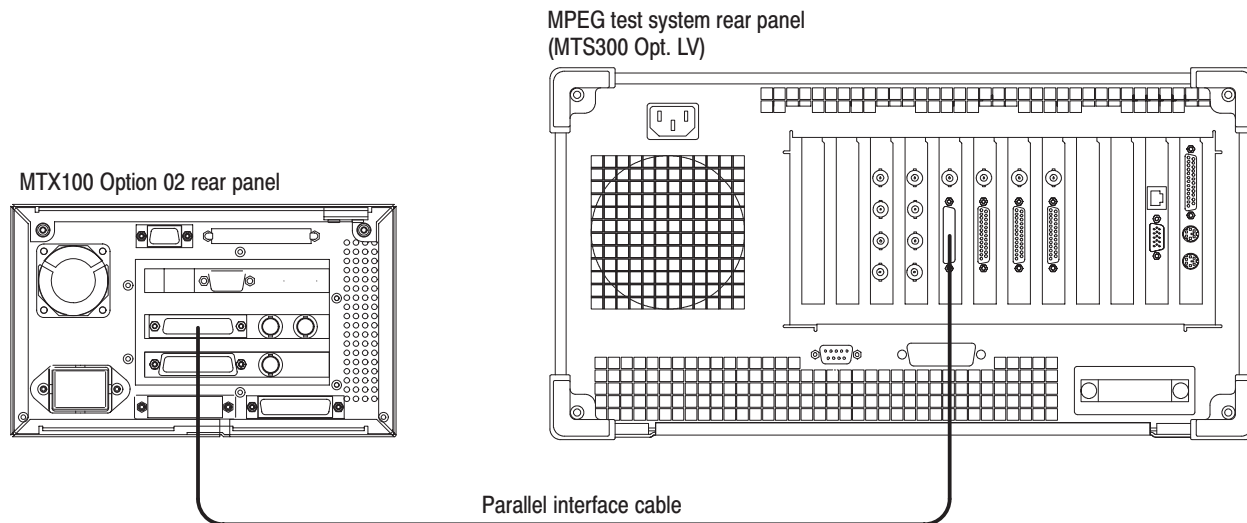

Figure 4-12: Third equipment connection for verifying the universal parallel/serial interface
67. Use the parallel interface cable to connect the SPI IN/OUT connector on the MTX100 Option 02 to the SPI (LVDS) 3 IN connector on the MPEG test system as shown in Figure 4-12.